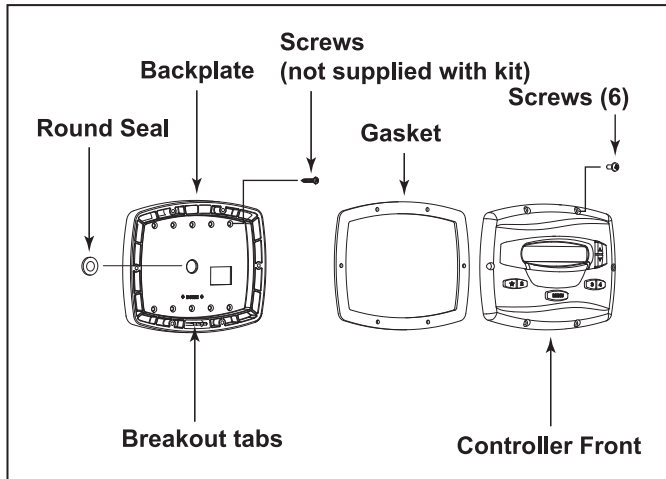

Figure 2. Controller Components
The ePump™ controller assembly (See Figure 2) contains the following components:
3. A minimum of two (2) fasteners (installer supplied) are required when installing to a flat wall to hold the controller securely.
4. The backplate has ten (10) mounting holes to choose from. Only drill out the backplate holes that will be used. See Figure 2.
6. At the bottom of the backplate, cut the two (2) tabs out with an appropriate tool, such as a Stanley knife, and route the cable through the open channel.